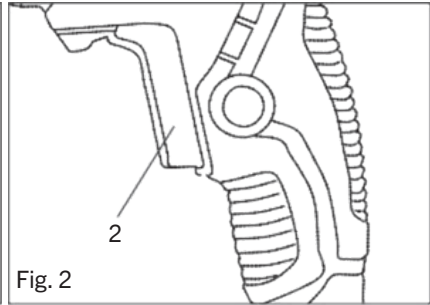

Fig. 2
1. To start drill, gently squeeze the trigger switch (2) (Fig. 2).